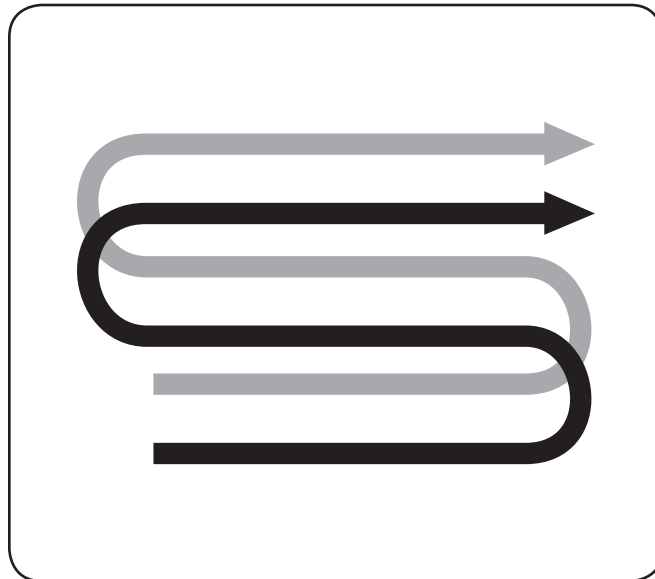

Figure 5-5
- When preparing a seedbed, go over the same path twice in the first row, then overlap one-half the tiller width on the rest of the passes. See Fig. 5-5.